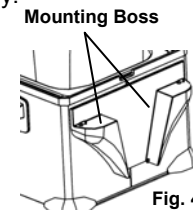

Fig. 4
- Insert the control panel into the mounting boss on the deep fryer body. (Fig. 4)